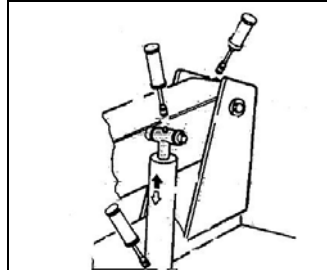

Fig.8.1
- 2) Grease the spindle bracket lift cylinder from time to time and also its swivel. Add the grease through the grease nipples (See Fig.8.1) using ordinary lubricating grease.